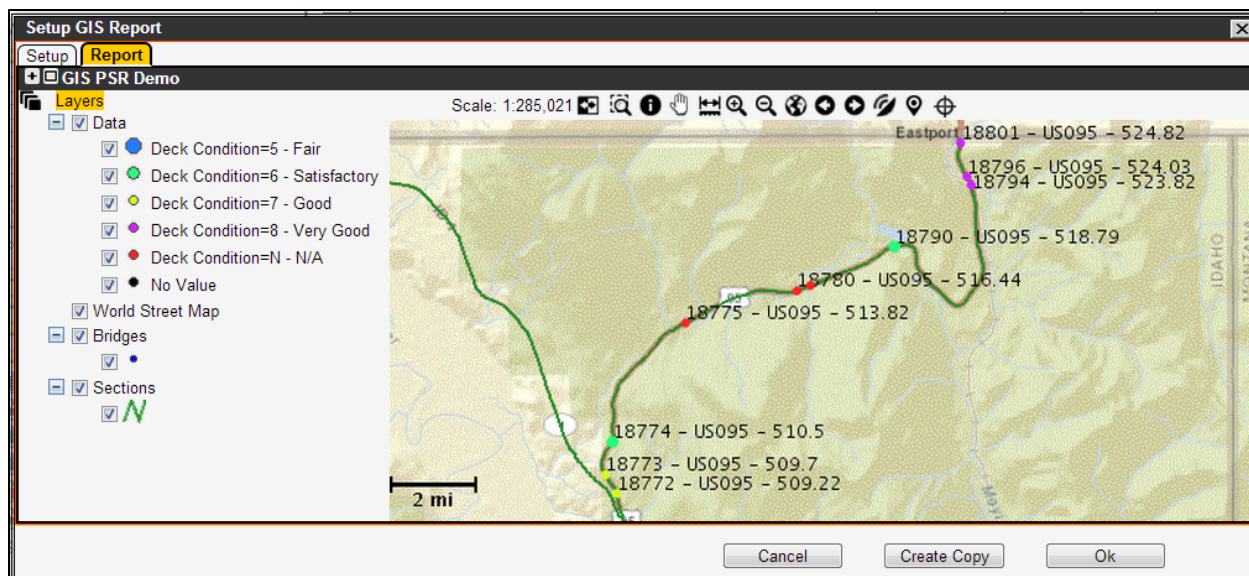

Figure 2-7. Setup GIS Report Dialog Box – Report Tab Example (Repeated)
3. Select the **Report** tab (Figure 2-7) to display the data in a color-coded map.